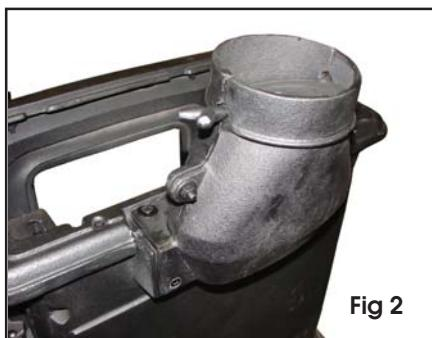

Fig 2
3. Attach the flue adaptor as shown in Fig 2 using the bolts supplied. A generous smearing of fire cement should be used to achieve a smoke-proof joint.